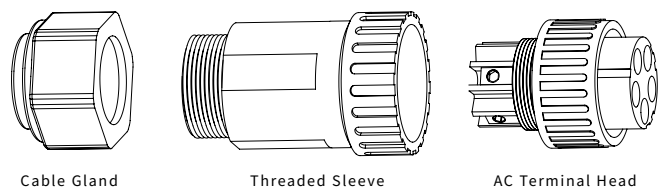

Figure 4-15
- ① Take the AC connector out of the accessory bag and disassemble it, as shown in Figure 4-15: